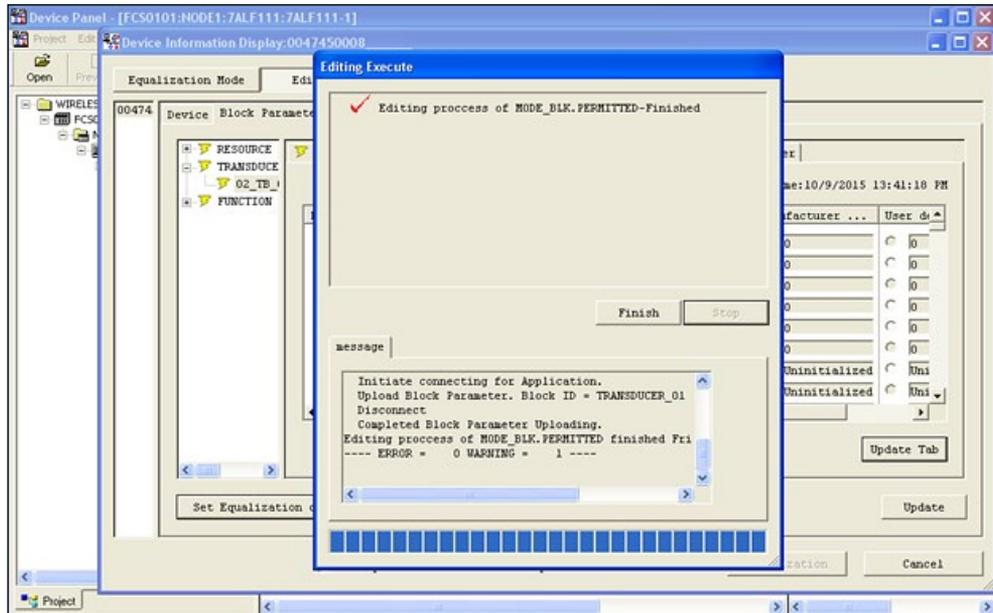

Figure 89 - Device Information Display Window: Editing Execute
4. Click on the **Update Tab** button to upload of the data from the device to the window. Modification of a parameter triggers an automatic download of the modified value to the device (Figure 89).